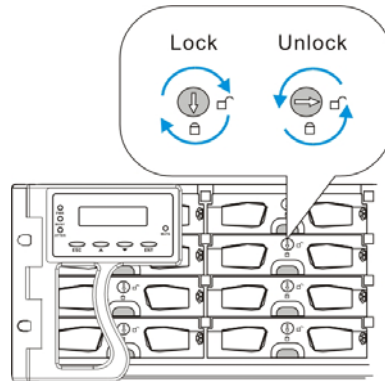

Figure 2-8: Drive Tray Key-lock Rotation
- Step 5. **Lock the flap into place** by turning the key-lock until the groove on its face is pointing down (vertical orientation). (See *Figure 2-8*)